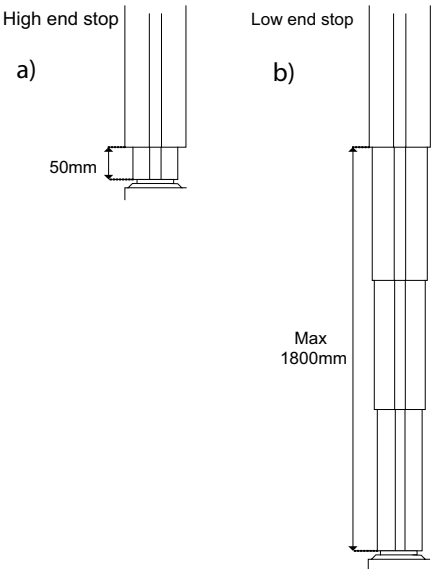

Fig. 4-125 High and low end stops
9. Place the stand (Z) at the position for the high end stop, see **Fig. 4-125**.
11. Place the stand (Z) at the position for the low end stop (maximum range of 1750 mm, between the end stops, see **Fig. 4-125**).
3. Move the Z-axis upward until the inner segment of the column is 7 cm from the outer segment, see a) in **Fig. 4-125**.
11. Place the stand (Z) at the position for the low end stop (maximum range of 1750 mm, between the end stops), see b) in **Fig. 4-125**.